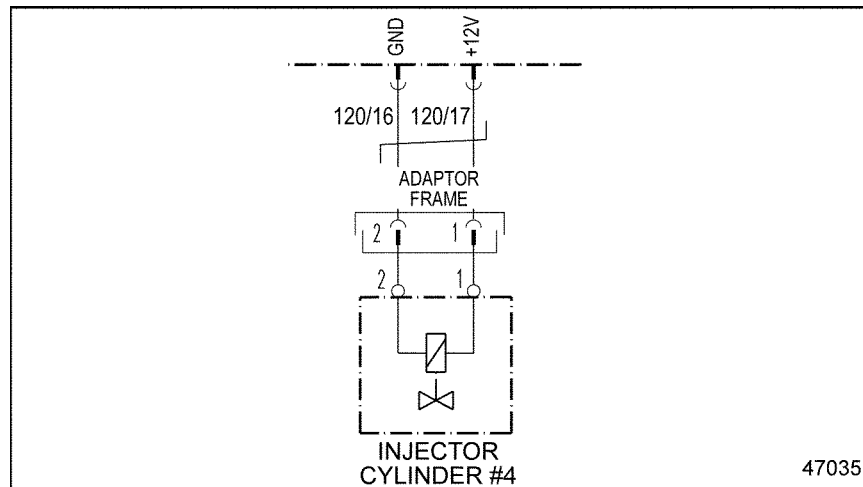

Figure 27-2 **Injector #4**
5. Measure the resistance between pin 1 of injector #4 and ground. See Figure 27-2.